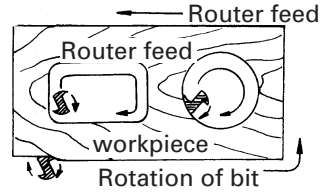

Fig. 16
(3) The bit rotates clockwise (arrow direction indicated on the base). To obtain maximum conformance with the feed directions shown in Fig. 16.